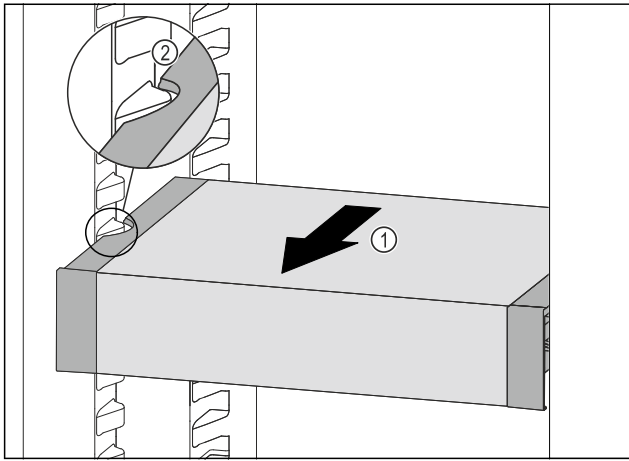

Fig. 87
- ▶ Pull VarioSafe forwards Fig. 87 (1) until the recesses in the side of the VarioSafe are at the level of the support rib in the refrigerator compartment. Fig. 87 (2)